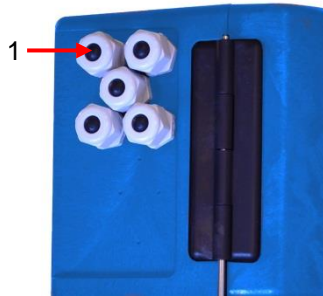

Figure 16
1. Take out the blanking plugs of the corresponding cable ductings (see figure 16).